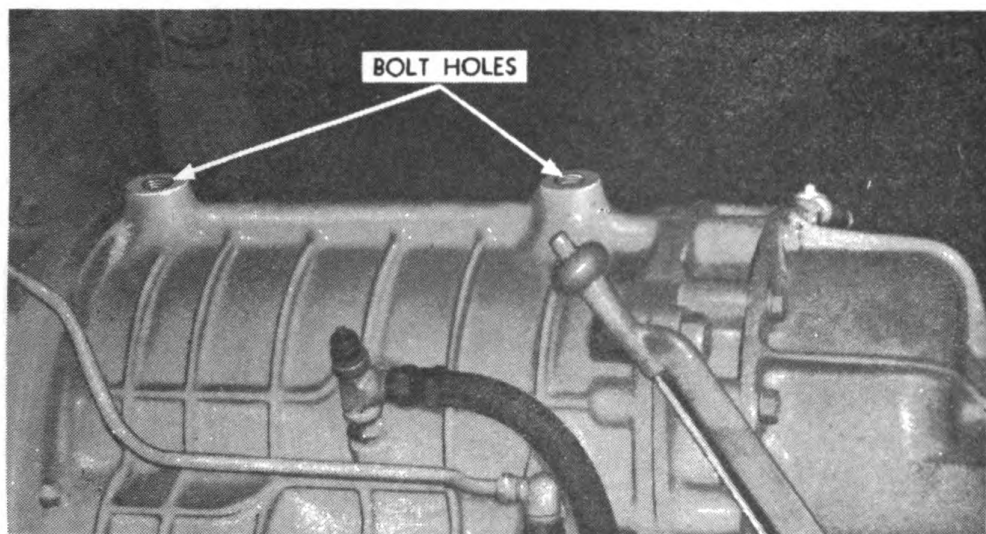

Fig. 31. Transmission case, showing bolt holes where transmission fuel group baseplate is to be mounted.
a. Baseplate. (1) Pass baseplate through driver's door to man in driver's seat.
(2) Place baseplate on transmission case so that slotted holes in baseplate are over the two holes in the transmission case (fig. 31). Inclined part of baseplate should face turret.